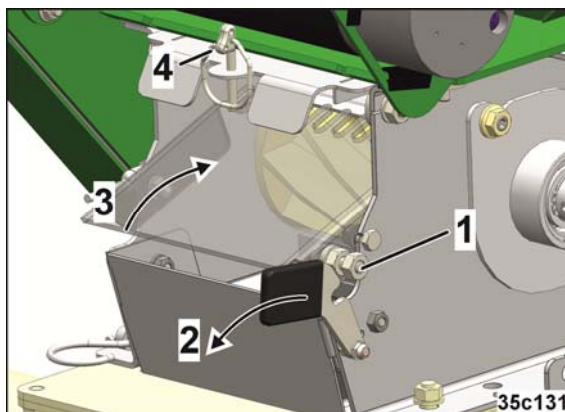
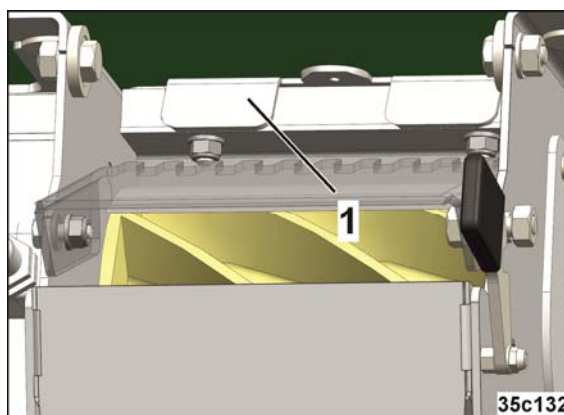

Fig. 46
Fig. 47
1. Loosen the nuts (Fig. 46/1) and open the locking mechanism (Fig. 46/2).
2. Swivel the viewing window inwards (Fig. 46/3).
3. Remove the linch pin (Fig. 46/4).
4. Push the slider (Fig. 47/1) into the dosing unit up to the stop.
9. Open the shutter (Fig. 47/1) and secure (linch pin Fig. 46/4).